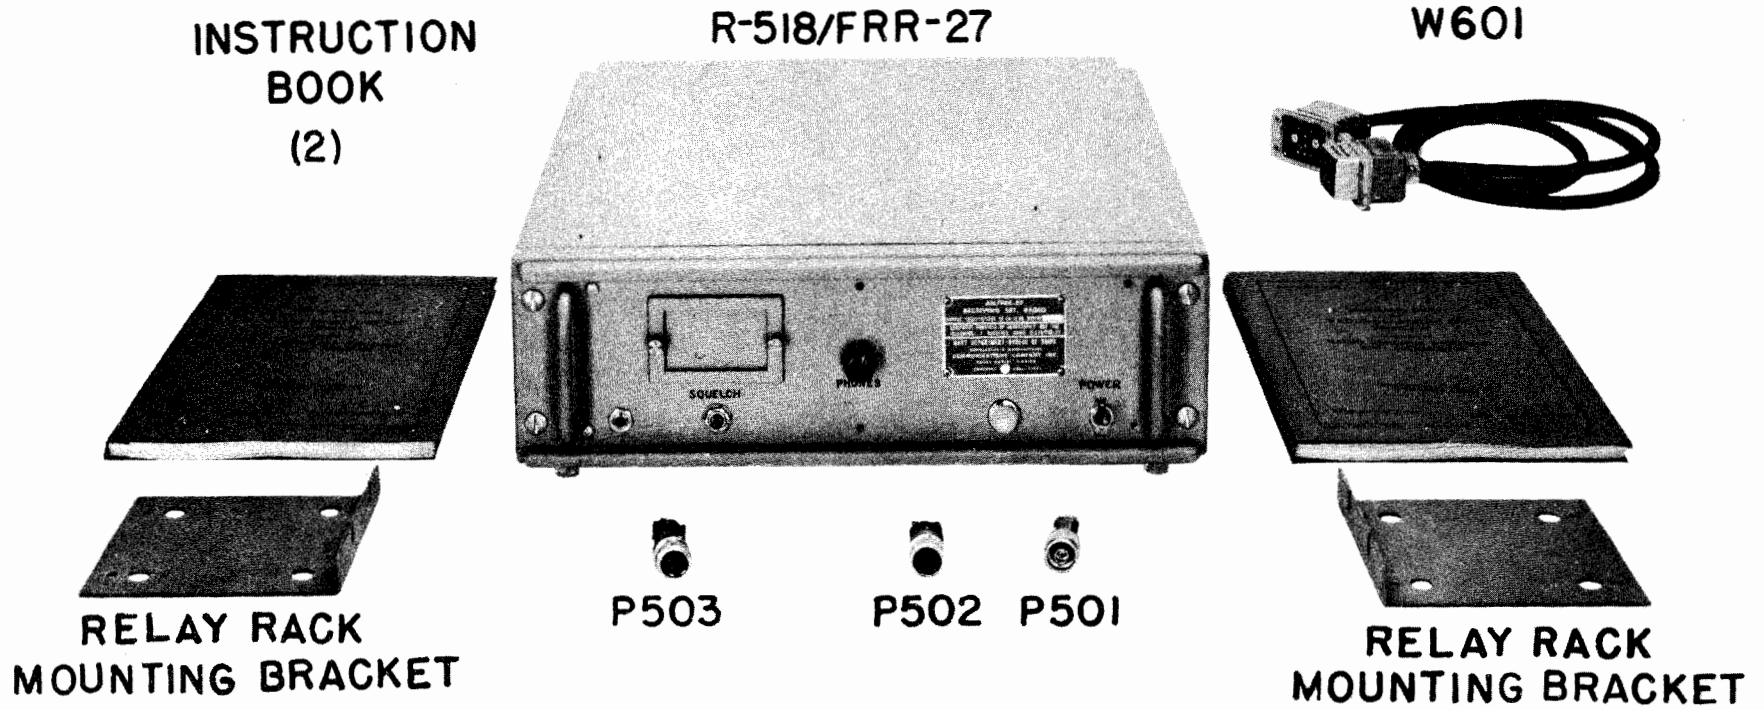

Figure 1-1. Radio Receiving Set AN/FRR-27 Complete, Including Radio Receiver R-518/FRR-27, Brackets, Plugs, Test Cable, and Instruction Books
c. EQUIPMENT ARRANGEMENT.—Radio Receiving Set AN/FRR-27 is shown complete in figure 1-1. It consists of the receiver proper (Radio Receiver R-518/FRR-27); a pair of auxiliary angle brackets for relay rack mounting; a set of four mounting legs for table or bench mounting (shown already mounted in place in figure 1-1); a test cable, W601, for connecting the receiver chassis with the case and rear compartment panel during alignment; 3 plugs for use in fabricating external cables to the receiver; and two copies of the instruction book.